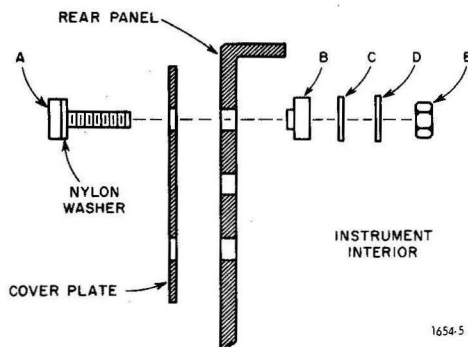

Figure 2-6. Removal of cover plate from rear panel.
a. On the rear panel: remove the two sets of Phillips-head screws and their associated nylon washers (A, Figure 2-6), nylon washers (B), flat washers (C), lockwashers (D), and nuts (E).
j. Mount the cover plate (see Figure 2-6) on the front panel, using the previously removed hardware (parts A through E).